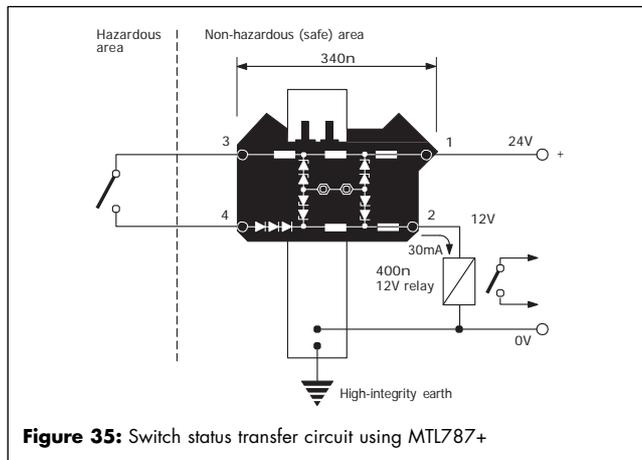

Figure 35: Switch status transfer circuit using MTL787+
Figure 35 shows a typical switch-status transfer circuit protected by an MTL787S+ barrier, which can be used to illustrate some of the fault-finding techniques discussed in this section. To determine the serviceability of barriers, proceed as described in the remainder of this section, but whenever possible always check barriers by working on the non-hazardous (safe) area terminals and the circuits connected directly to them.
Check that the power supply is available to the barrier circuit and that the voltage across the supply and with respect to earth is correct. For example, referring to figure 35, the presence of 24V on terminal 1 and 12V on terminal 2 when the hazardous-area switch is closed confirms the serviceability of almost the complete circuit.
If testing a barrier in situ, refer to figure 35 and proceed as follows:
- 9.2.2** Disconnect the non-hazardous (safe) area cables, terminals 1 and 2, and insulate them completely to prevent them from shorting together, to other cables or earth. Be careful when handling non-hazardous (safe) area cables; the relay contacts in figure 35 for example could be carrying mains voltage.
- 9.3.2** For the barrier shown in figure 35 the readings shown in table 20 should be obtained when connecting a test meter with the diode test function selected.
- 9.3.3** In the case of the circuit shown in figure 35, with the hazardous-area cables connected to the terminals, and the test meter connected between terminals 1 (+ve) and 2 (-ve) a reading of \times will be obtained if the switch is open and a reading of approximately 1.2V if the switch is closed, and no earth faults are present. To check if either of the hazardous-area cables is shorted to earth, connect the test meter as in table 21 which shows the readings that will indicate a fault to earth.